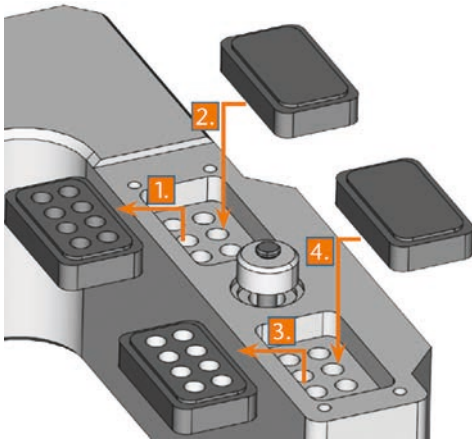

Fig. 37: New tool changer inserts (right, without drill positions) replace old inserts (left, with drill positions)
- M5. Remove the 2 existing tool changer inserts and replace them with 2 new ones (➔ Fig. 37).